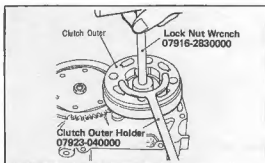

Fig. 37
- Straighten the tab on the lock washer, and using the clutch outer holder Tool No. 07923-040000 and lock nut wrench Tool No. 07916-2830000, loosen the lock nut and remove the clutch assembly (Fig. 37). The clutch is then disassembled.